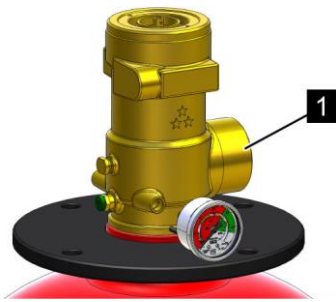

Fig. 63: Valve outlet
5. ➔ Remove the anti-recoil cap on the valve outlet (Fig. 63/1) and keep it in a safe place for return transport of the extinguishing agent container.